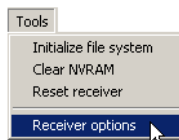

Figure 4-8. Open Receiver Options
2. Click **Tools ▶ Receiver Options** (Figure 4-8).